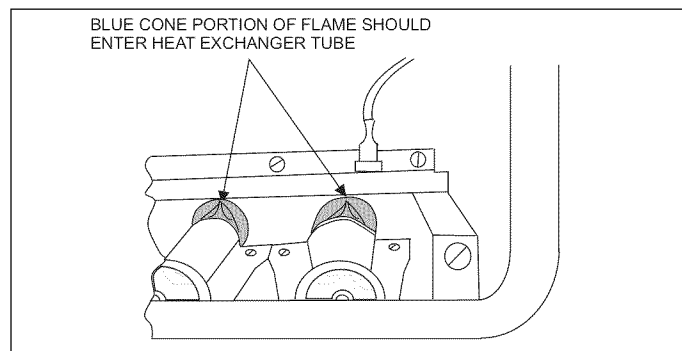

FIGURE 2: Burner Flame Drawing
The furnace is equipped with the controls necessary for proper operation. The various components referred to in this manual and on the furnace rating plate are identified in Figure 2.
It is the owner's responsibility to ensure that an annual inspection of the entire heating portion of the unit is made by a qualified service agency. Examine the furnace as outlined below in steps "1 - 6" before each heating season. Use Figures 2 and 3 for visual reference.
6. Examine the burner flames to make sure the burners look like they are operating properly. The burner flames for natural gas should appear blue with a few yellow tips. The burner flames for propane gas should appear blue with moderate yellow tips. The flame should appear cylindrical in shape and should extend from the end of the burner into the heat exchanger. Refer to the pictorial sketch shown in Figure 2 as a comparison to the actual flame.